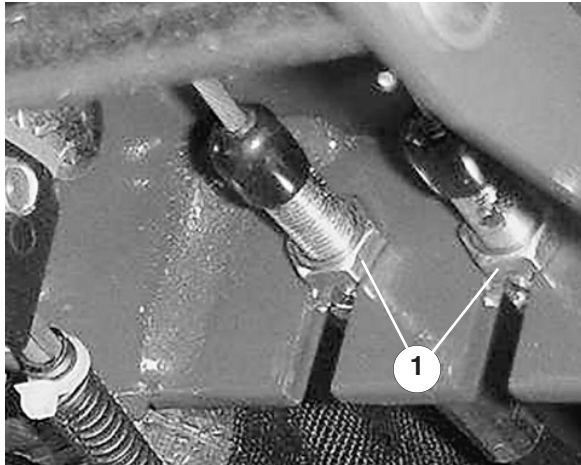

Figure 45
1. To reduce free travel of the turn pedals—tighten the brakes—loosen the front nut on the threaded end of the brake cable (Fig. 45). Then tighten the rear nut to move the cable backward until the turn pedals have 13 to 25 mm of free travel. Tighten the front nut after brakes are adjusted correctly.